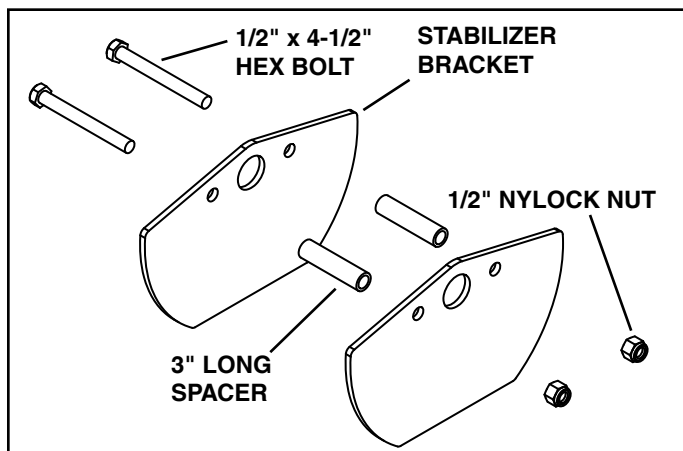

FIGURE 7
2. Assemble the stabilizer brackets together using (2) 1/2" x 4-1/2" hex bolts, (2) 3" long spacers and 1/2" nylock nuts as shown in figure 7. **Do not tighten yet.**